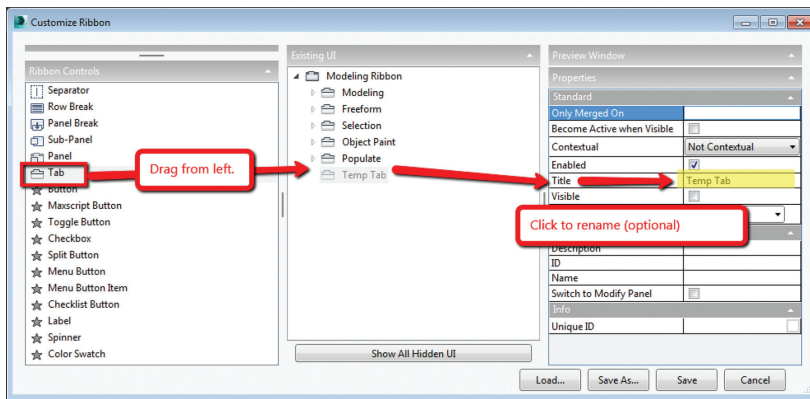

Figure 18: Creating a tab on the ribbon
- 2) Create a new "tab" by dragging it onto the "Existing UI" column in the middle (see Figure 18).